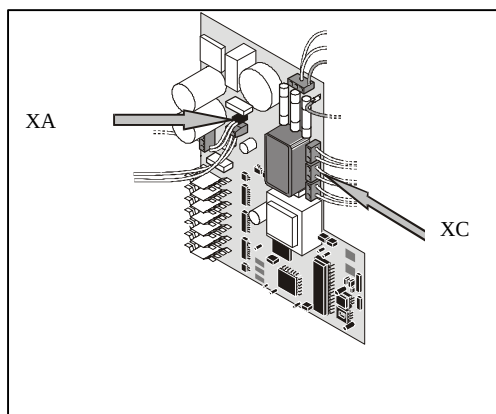
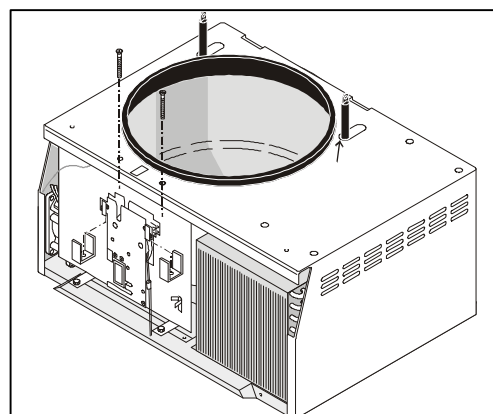

Figure 7
Figure 8
5.2.1 Lid Lock Assembly (230)
- Disconnect XC leads for the lid magnet and unplug XA for integrated lid switches and earthing wire (Figure 7).
- Press the plastic stopper (133) out of the bottom plate, untie the rip cord and pull it out of the guide eyes.
- Unscrew the Phillips screws (232) for the fixing claws (231); when doing so hold the locking device (Figure 8).